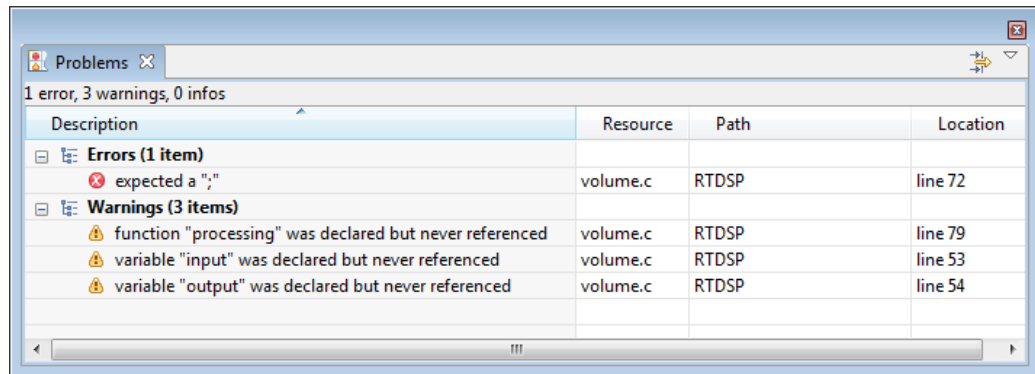

Figure 11: Syntax error reporting
- Choose **Project→Rebuild Active Project**. The problems frame now shows some errors/warnings. A build message appears at the top of this frame **1 Error, 3 Warnings, 0 Infos** and below this each problem is detailed (see figure 11).